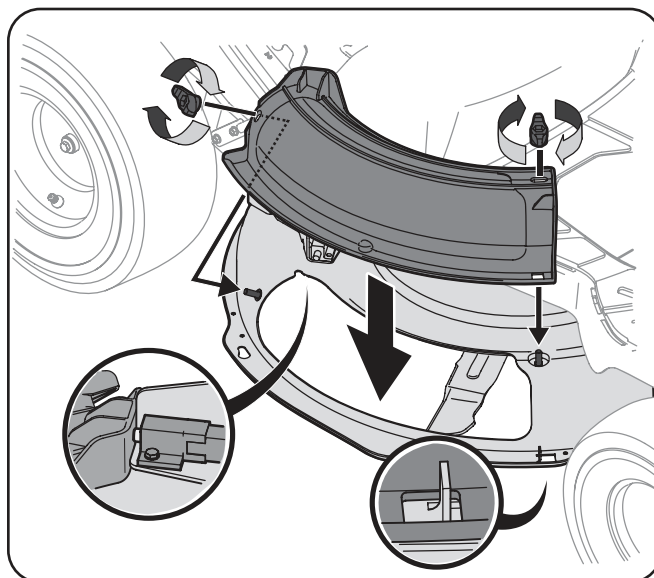

Figure 1-2
1. Install the mulch plug into the deck discharge opening on the deck. The studs on the deck surface will fit through the holes on the upper portion of the mulch plug. The small tab on the deck lip area will fit through the square cutout on the lower portion of the mulch plug. See Figure 1-2.